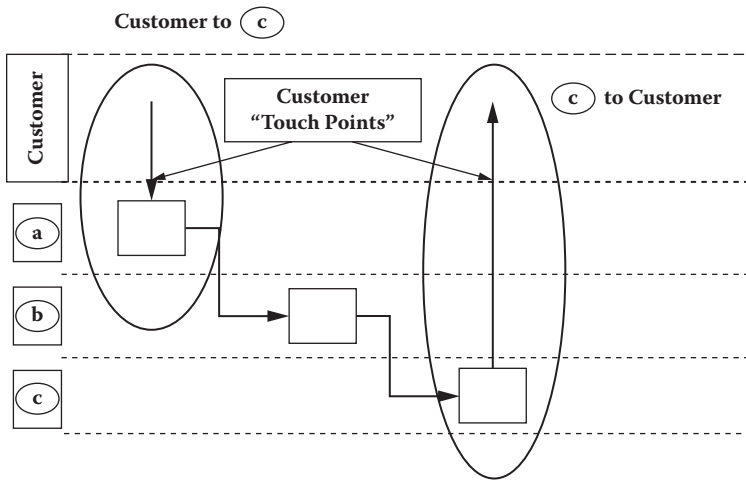

Figure 5.16 External supplier–customer relationships involve an input or output that directly connects the customer with some part of the organization.
12. This is the pattern of *external* supplier–customer relationships (Figure 5.16).